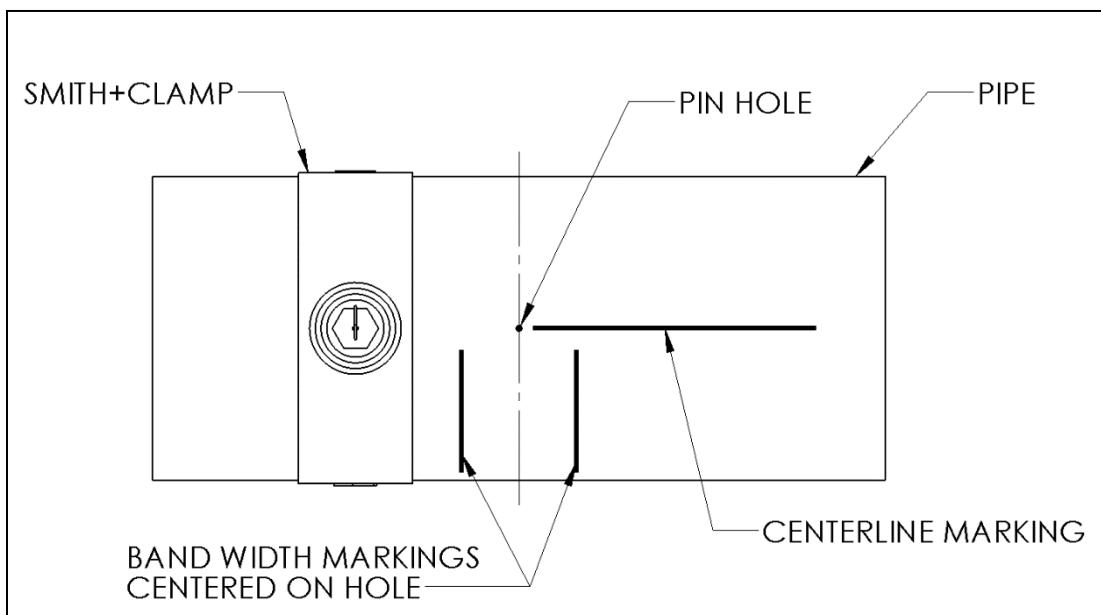

Figure 3
4. To assist with the alignment of the PLIDCO Smith+Clamp, it can be helpful to mark the location of the hole relative to the center of the seal cone by using a grease pen as shown in Figure 3. Mark a horizontal line longitudinally down the center of the pipe, and 2 vertical lines centered around the hole that are the same width apart as the Smith+Clamp band.